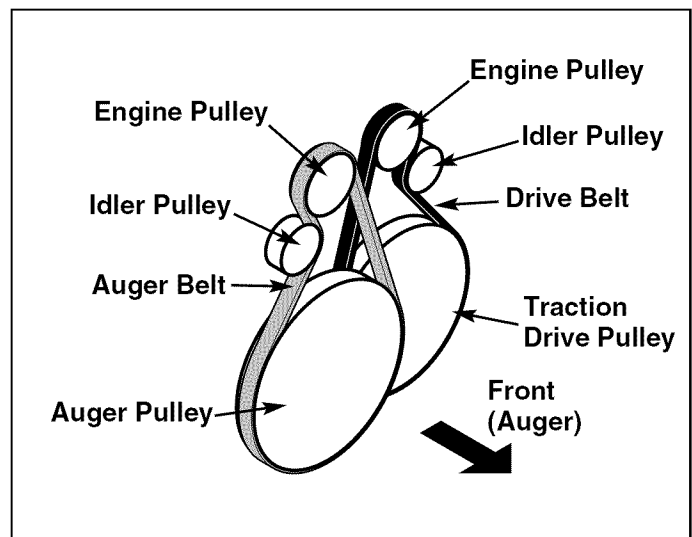

Figure 22. Drive Belt Paths
The snowthrower is equipped with two drive belts located just in front of the engine under the belt cover. Figure 22 shows both belts and idler pulleys. The belt nearest the engine is the unit traction drive (wheels) belt. The belt farthest from the engine is the auger/ impeller drive belt.
3. Pull the traction drive belt idler pulley arm (See Figure 22) away from the belt to relieve tension, and slide the belt off the engine pulley.